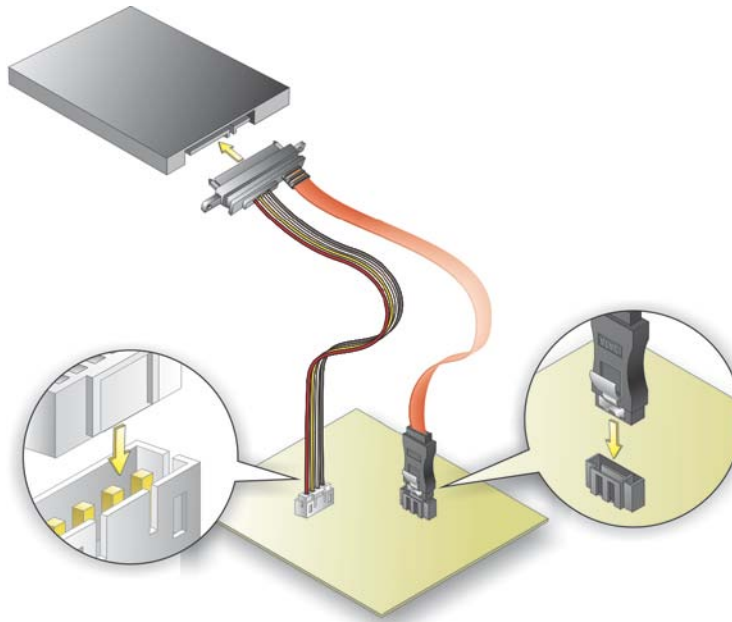

Figure 4-3: SATA Drive Cable Connection
Step 2: Insert the cable connector. Insert the cable connector into the on-board SATA drive connector and the SATA power connector. See **Figure 4-3**.
Step 3: Connect the cable to the SATA disk. Connect the connector on the other end of the cable to the connector at the back of the SATA drive. See Figure 4-3.